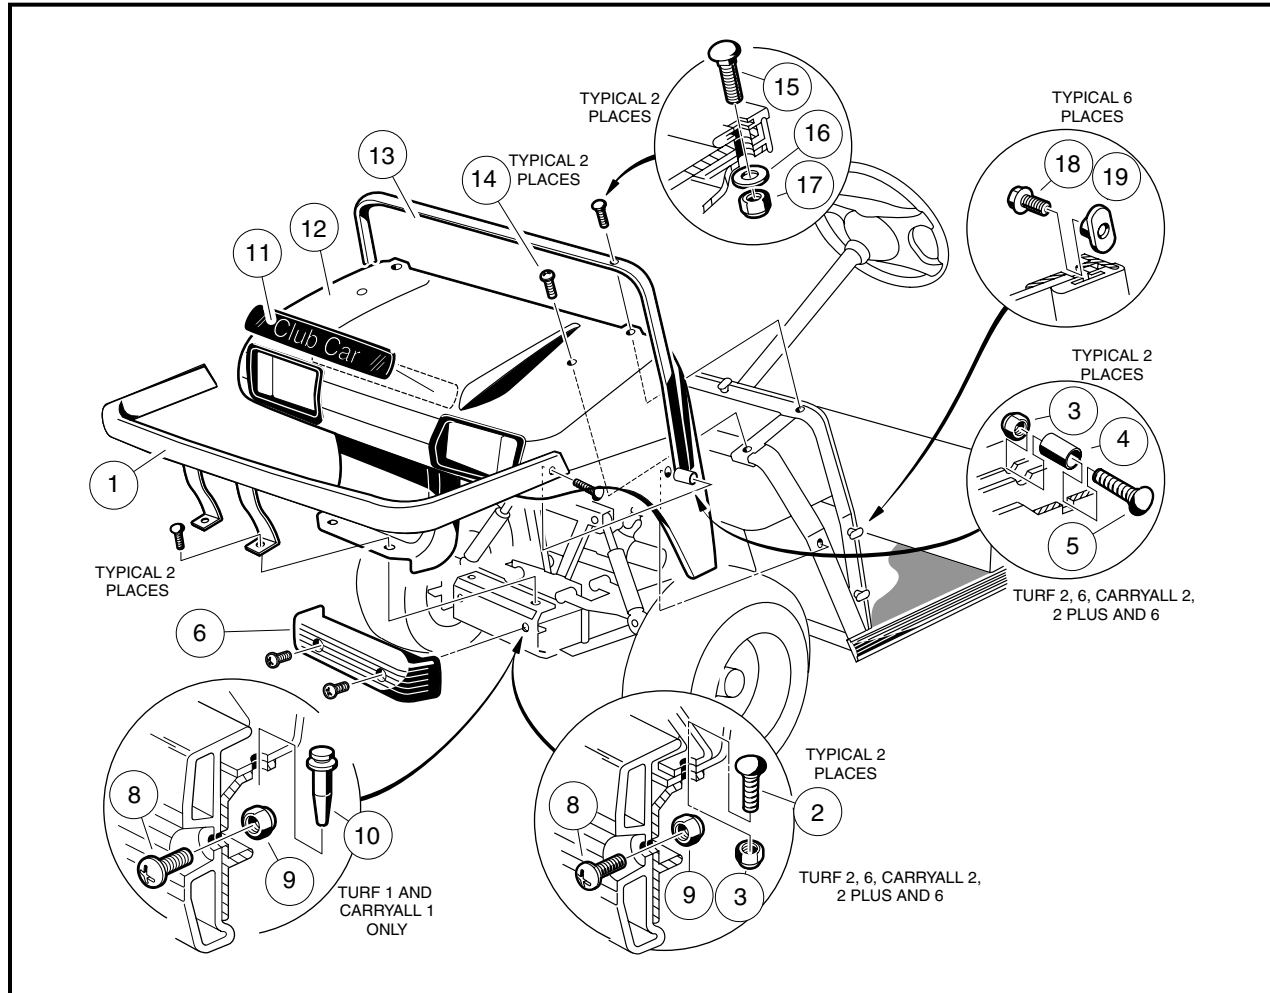

Figure 4-1 Front Body Assembly
1. Remove screws (8) and lock nuts (9) and lift front bumper (6) from vehicle frame (**Figure 4-1, Page 4-6**).
- 2.2. Remove carriage bolts (2) and lock nuts (3) from the heavy-duty bumper support braces and remove bumper.
3. Remove carriage bolts (15), lock nuts (17), and washers (16) from front body trim. Remove screws (14) from top of front body.
4. Loosen, but do not remove, screws (18) holding front body trim against front body (**Figure 4-1, Page 4-6**).
6. Pull front body (12) from under trim (13) and remove from vehicle (**Figure 4-1, Page 4-6**).
1. Install front body (12) under trim (13), align holes and finger-tighten screws (14) holding front body against frame (**Figure 4-1, Page 4-6**).
2. Install carriage bolts (15), washers (16), and lock nuts (17) onto front body trim. Tighten bolts to 11 ft-lb (14.9 N·m). Tighten screws (14) to 20 in-lb (2.3 N·m).
**NOTE:** If installing a new front body, two 5/16 inch holes must be drilled after the body has been placed on the vehicle. Use the body trim (13) as a guide for drilling the holes.
3. Tighten screws (18) holding front body trim against front body to 17 in-lb (1.9 N·m) (**Figure 4-1, Page 4-6**).
- 5.1. Install two carriage bolts (2) and lock nuts (3) from the heavy-duty front bumper support braces and install bumper (1). Tighten bolts to 65 in-lb (7.3 N·m) (**Figure 4-1, Page 4-6**).
- 5.2. Install two carriage bolts (5), spacers (4), and lock nuts (3) into heavy-duty bumper mounting positions located on sides of front body (12). Tighten bolts to 65 in-lb (7.3 N·m).
6. For Turf 1 and Carryall 1 vehicles, install two push type blind rivets (10) that secure lower front body to frame (**Figure 4-1, Page 4-6**).
7. Install front bumper onto vehicle and install screws (8) and lock nuts (9). Tighten to 65 in-lb (7.3 N·m).